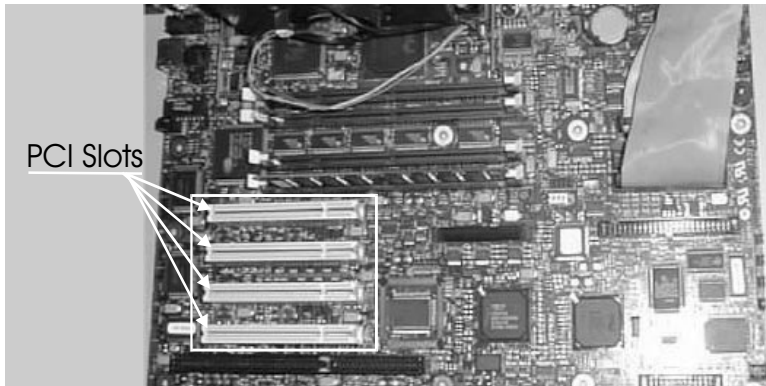

Figure 2-3. Choose an Available PCI Slot
1. Choose any available standard PCI slot as shown in Figure 2-3.